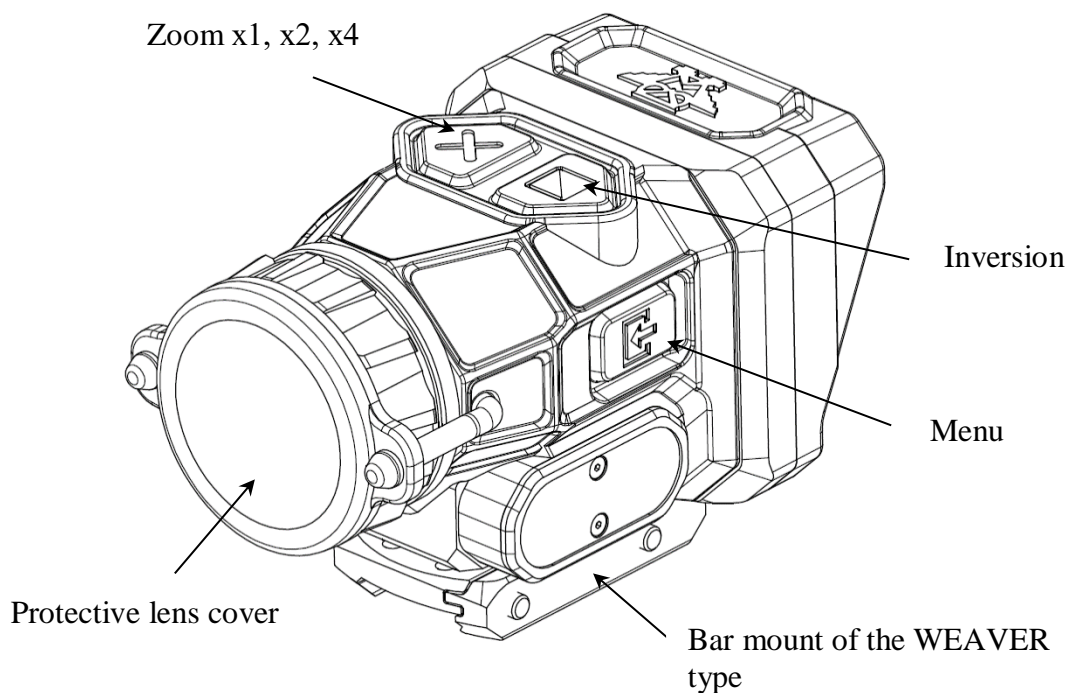

Figure 2
1.4.1 The main components of the device and the control layout are shown in Figure 2 and 3